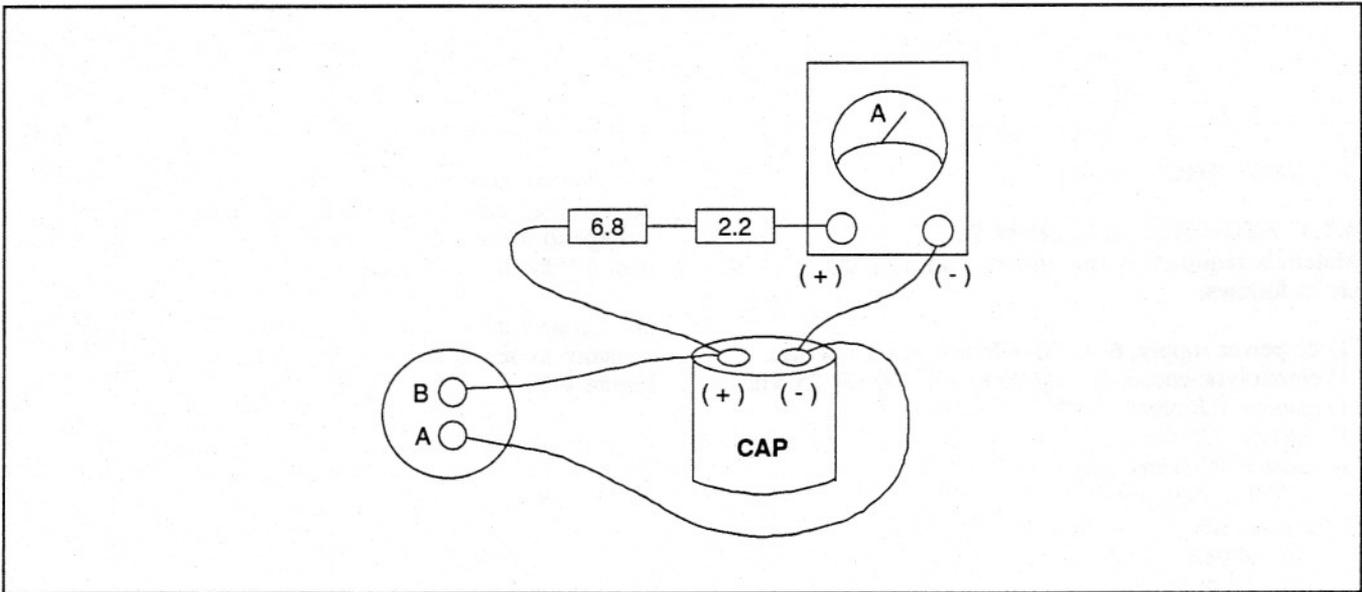

FIGURE 4-2.
D. Connect the dc ammeter and the 6.8-ohm and 2.2-ohm resistors in series and connect across the capacitor. See Figure 4-2.